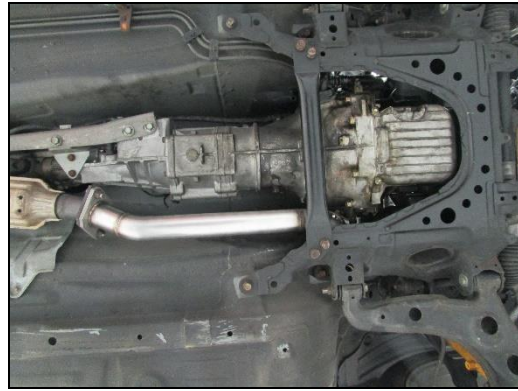

Figure 11
5. Reinstall the brace and tighten (x4) 17mm head bolts (**Figure 11**).